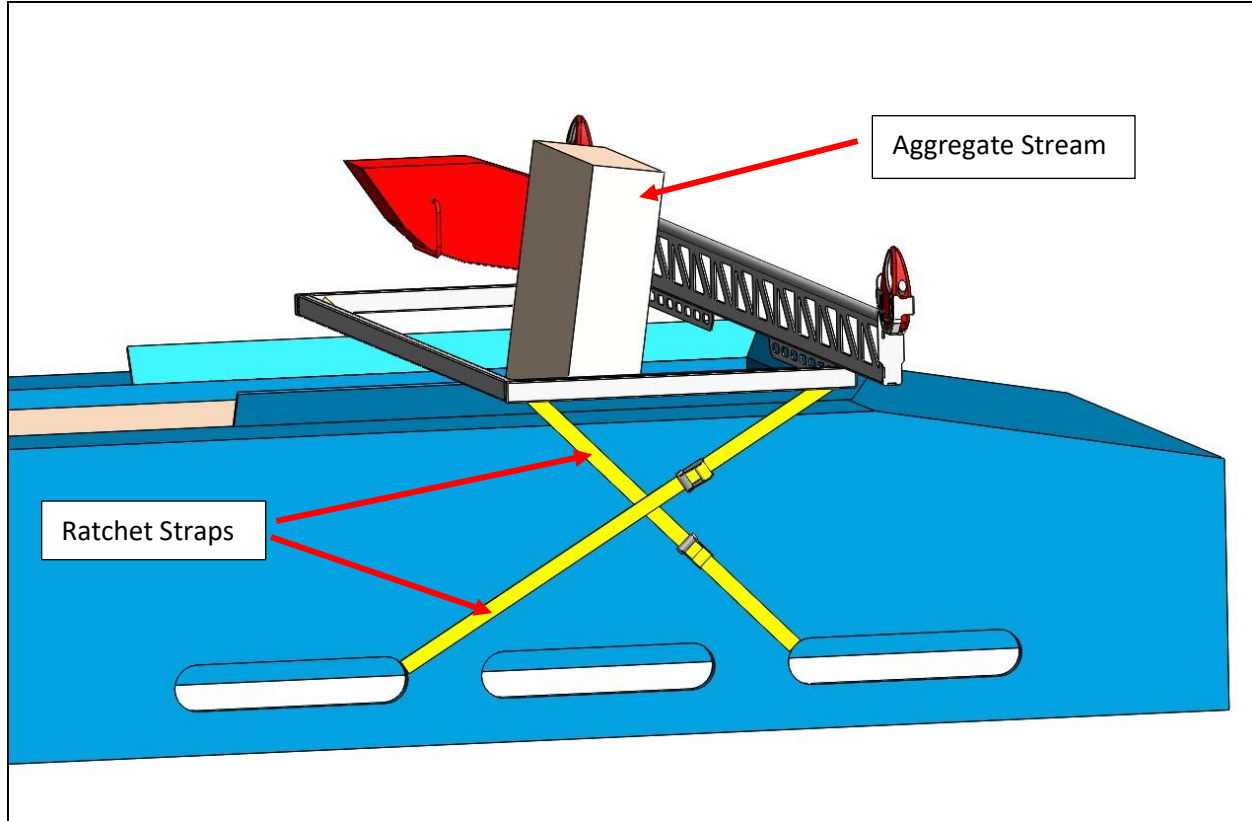

Figure 4 – Shown with Crossed Ratchet Strap Arrangement
2. For a more flexible solution, 4 ratchet straps can be used (2 per side). See Figure 4. The length of the 4 straps can be adjusted to ensure the M-500 is centered above the conveyor belt it's placed above, and oriented so that the bucket captures the entire aggregate stream when operated. The straps can be attached to the 1" x 2" frame bar that extends out from the main rail.